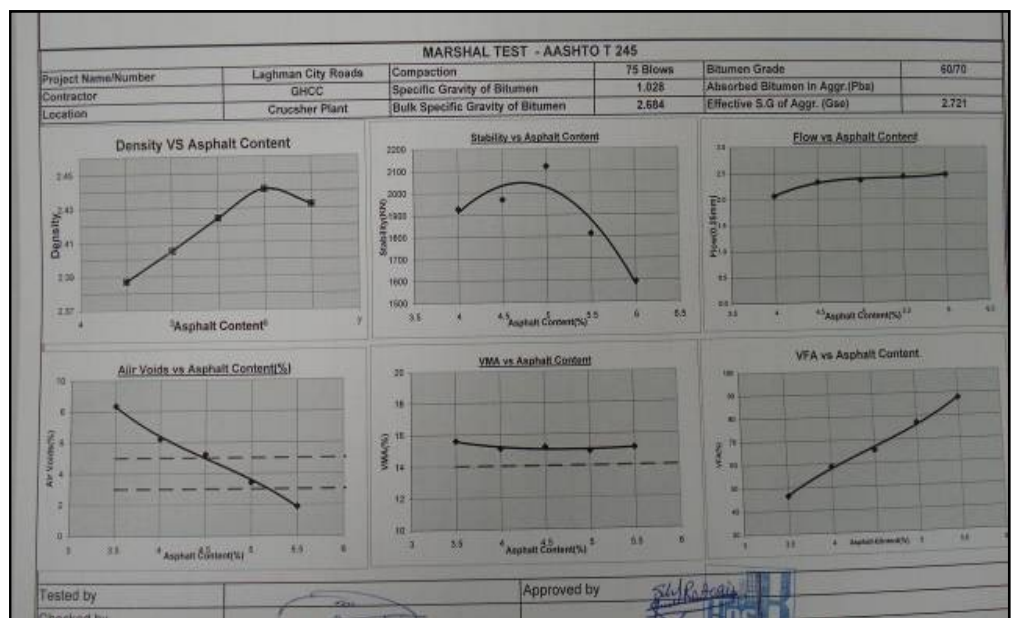

Figure 1. Marshall Test Results
**Binder Course.** The binder course is the first layer of asphalt applied to the road. The MRRD/MPoW standard drawings require a 60 mm or 6 cm thickness for binder course asphalt and most specifications require this standard thickness for asphalt roads. Before any asphalt is applied to the road, the contractor will test different ratios of bitumen and aggregate to determine the correct job mix formula. The Marshall test is used to evaluate certain parameters based on different asphalt contents. Figure 1 shows Marshall Test results for an asphalt road in Mehtar Lam, Afghanistan. For this test, the optimum bitumen content was 4.7%.